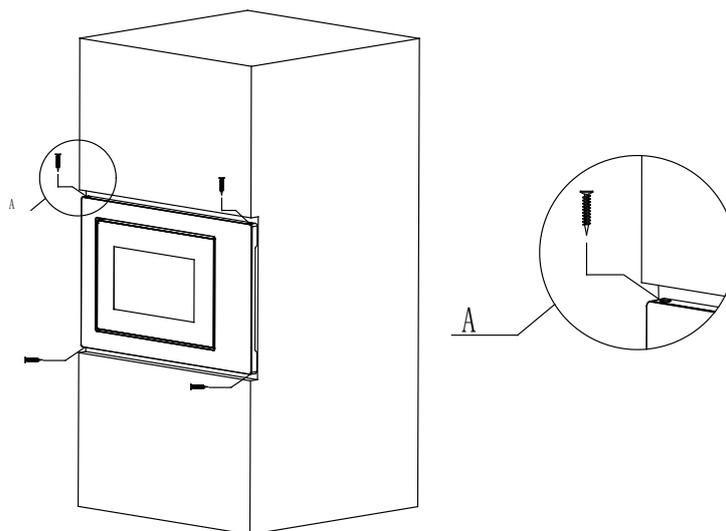

Fig.4
D) Use the screws of parts packing to secure the microwave oven in the cabinet. (Fig.4)